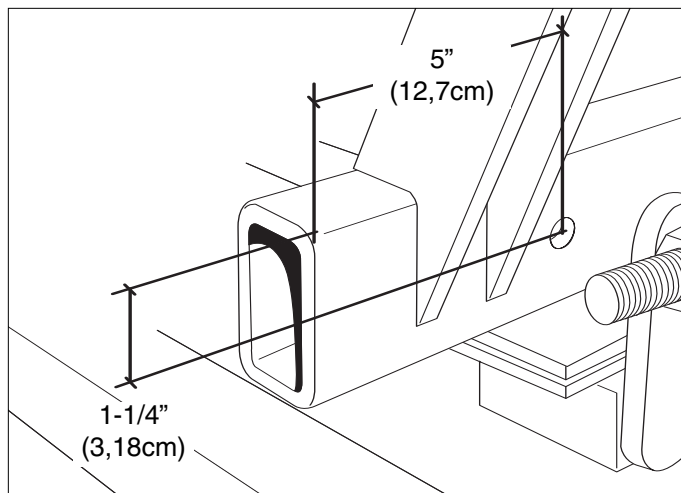

Figure 45. Hole Location
1. Measure and mark the front main frame tubes to the dimensions shown in Figure 45.
2. Using a 3/8" drill bit, drill one (1) hole in each of the main frame tubes from the outside surface of the tube.